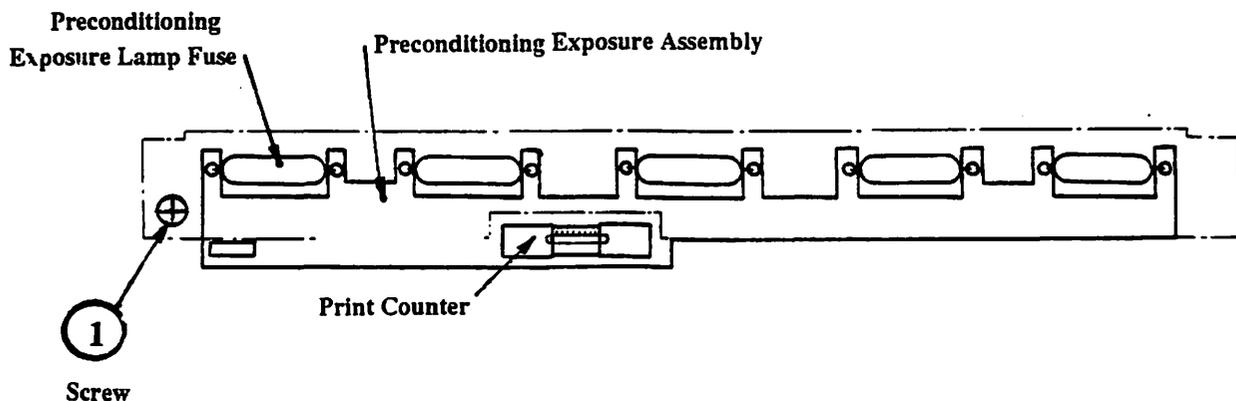

Figure 2-13
In these instructions, right and left are used with reference to Figure 2-13.
2. Remove the single mounting screw (Figure 2-13, #1).